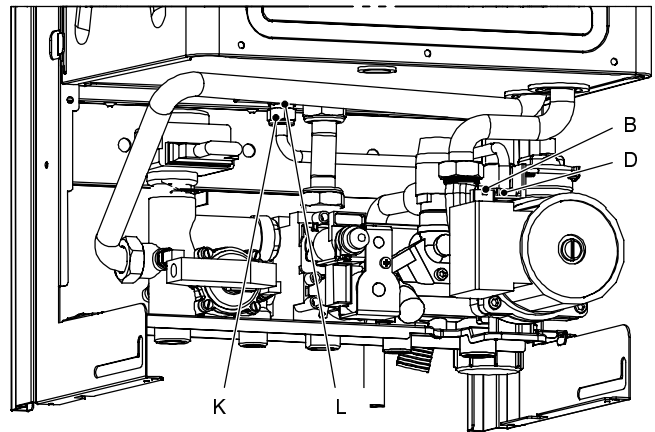

Fig. 63
- 2 Completely unscrew the connection K, the lock-nut L (Fig. 63) and remove the expansion vessel from the top of the boiler.